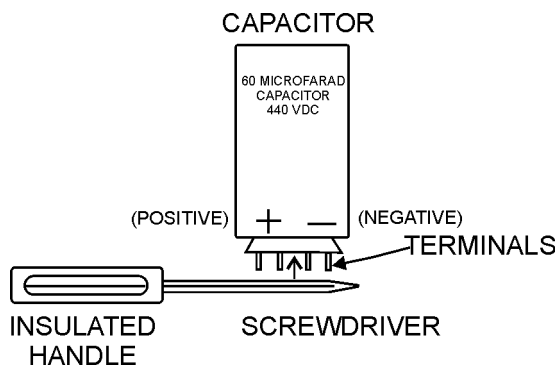

Figure 15. Discharging Capacitor
- **ALWAYS** discharge the capacitor before handling. Use a conductor or a screwdriver (Figure 15) with an insulated handle. Place screwdriver across both capacitor terminals while holding onto the handle. This will short out the voltage and discharge the capacitor.